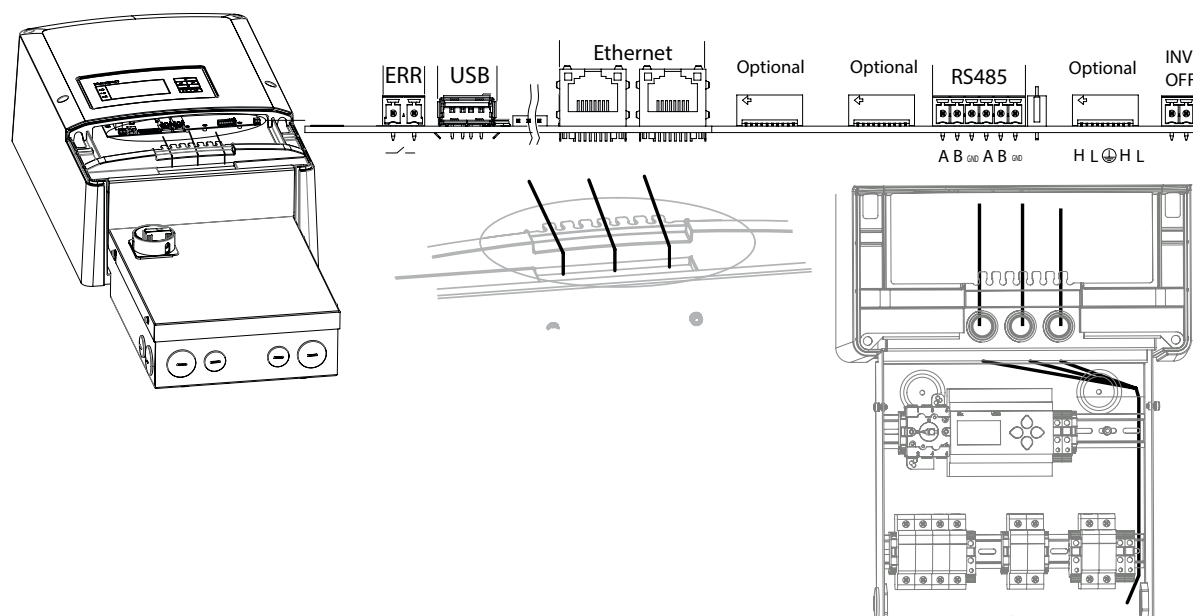

Figure 38: Connection area: Connection and pinout of the interfaces (Inverter with PSD box)
- LI2YCYv (TP) black for laying cable outside and in the ground 2 x 2 x 0.5
- LI2YCY (TP) grey for dry and moist spaces 2 x 2 x 0.5
2. Connect the connection cable to the connection terminals provided (Figure 38 on page 31).
- 2. Connect the connection cable to the Ethernet interface (Figure 38 on page 31).